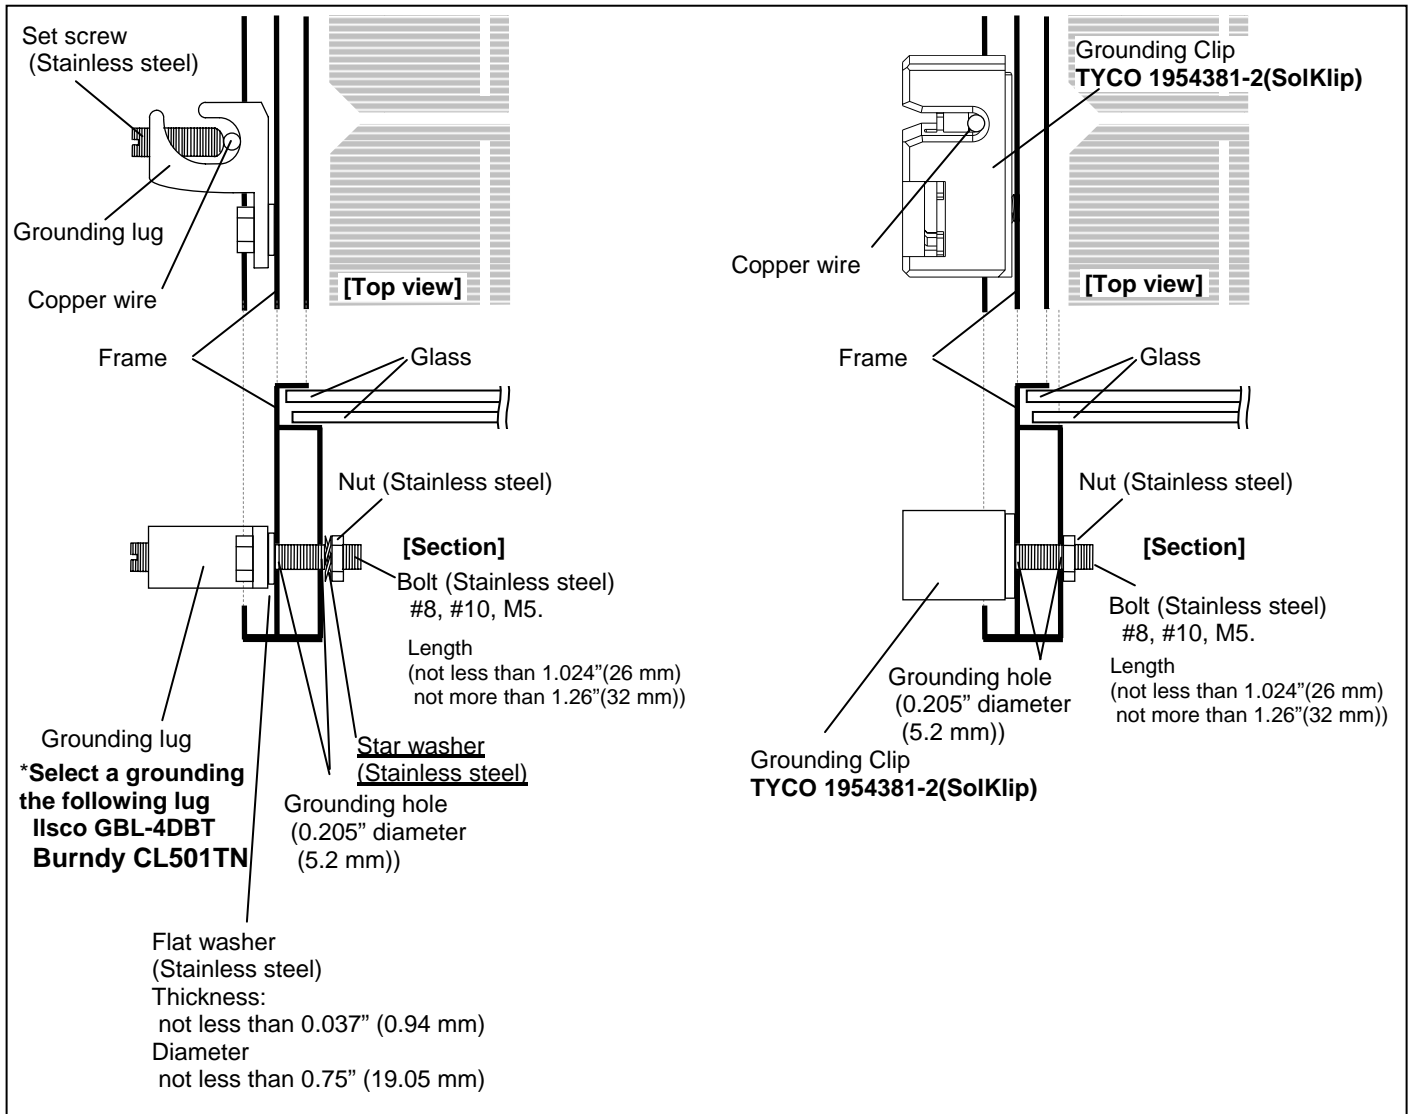

Figure 4.2
Using "grounding lug" (see Figures 4.2)
- In this case, the screw threads are not providing the electrical ground contact. As shown in Figures 4.2, tighten the set screw (stainless steel) to ground wire at the torque specified by lug manufacturer.